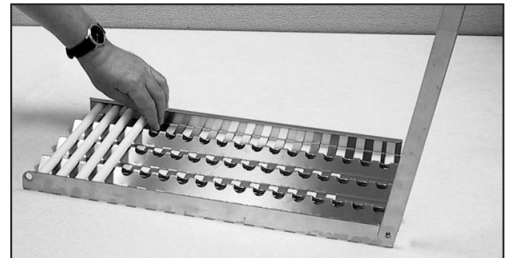

FIG.13
3. Place 18 ceramic rods on the radiant (Fig. 13).
- a) Unlock radiant end cap by pushing it up with two fingers (Fig. 13) or pliers may be used.